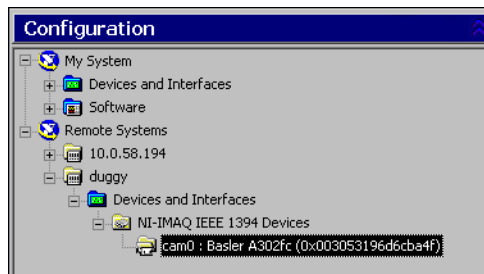

Figure 4. Viewing the Camera on the Remote System
- i. Press the <F5> key to refresh the MAX configuration tree. Your IEEE 1394 camera should be listed in the Remote Systems tree, as shown in Figure 4.